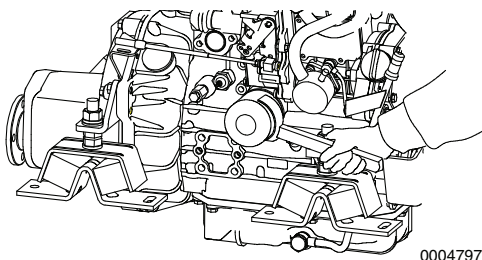

Figure 2
2. Turn the engine oil filter **Figure 2** counterclockwise with a wrench.